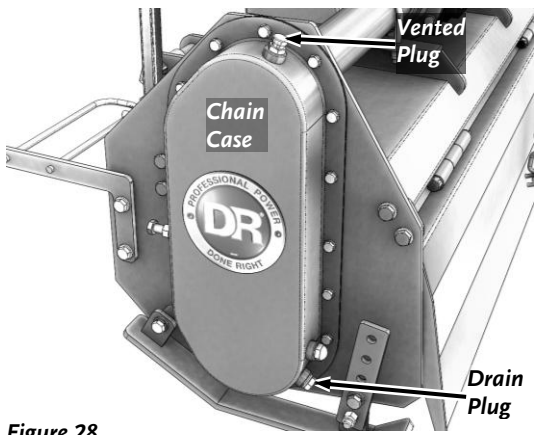

Figure 28
1. Remove the Vented Plug from the top of the Chain Case using a 19mm Wrench and position a suitable oil drain container under the Drain Plug at the rear of the Chain Case (**Figure 28**).